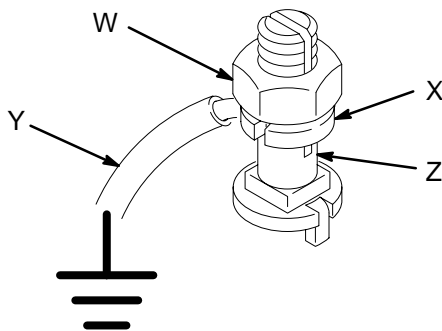

Fig. 1
1. *Pump:* use a ground wire and clamp. See Fig. 1. Loosen the grounding lug locknut (W) and washer (X). Insert one end of a 1.5 mm² (12 ga) minimum ground wire (Y) into the slot in lug (Z) and tighten the locknut securely. Connect the other end of the wire to a true earth ground. Order Part No. 237-569 Ground Wire and Clamp.